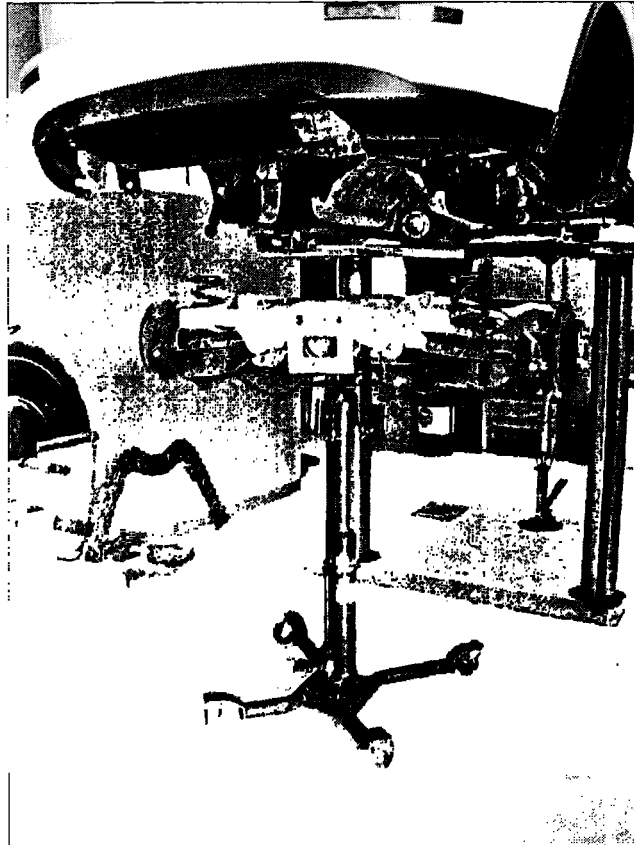

Figure 31
32. Carefully lower the suspension member out of the vehicle (see Figure 31) and place it in a safe location.